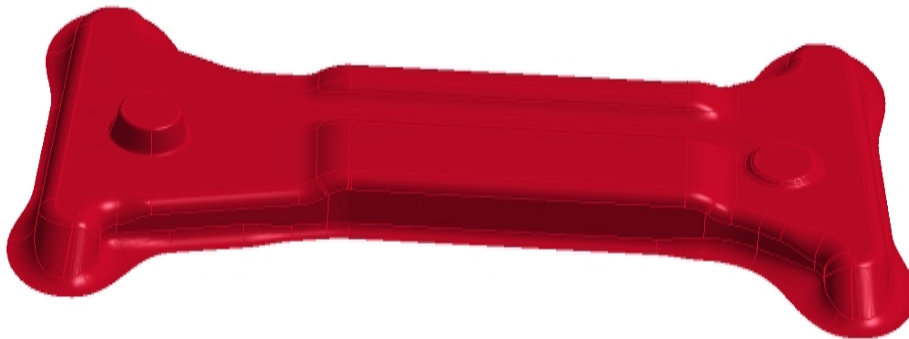

Figure 6.5.7 Morphed Boss
- Click on the APPLY button to generate the morphed boss, as shown in Figure 6.5.7.